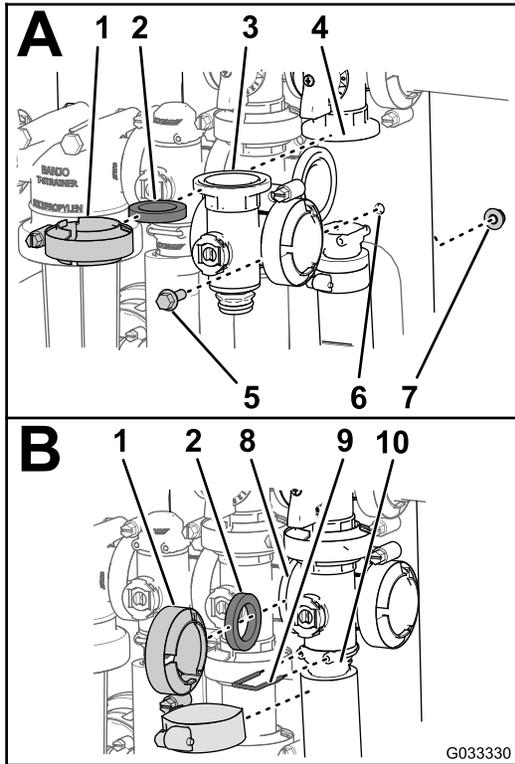

Figure 77
1. Align the flange of the master-boom-valve manifold, 1 gasket, and the flange of the master-boom-bypass valve (A of Figure 77).
2. Assemble the master-boom-valve manifold, gasket, and master-boom-bypass valve with a clamp tightened hand-tight (A of Figure 77).
3. Align the flange of the master-boom-valve manifold, a gasket, and the agitation-valve manifold (B of Figure 77).
4. Assemble the master-boom-valve manifold, gasket, and agitation-valve manifold with a clamp tightened hand-tight (B of Figure 77).
5. Align the flange of the master-boom-valve manifold, a gasket, and the master-boom house (B of Figure 77).
6. Assemble the master-boom-valve manifold and socket with a clamp tightened hand-tight (B of Figure 77).
7. Secure the end-cap fitting to the outlet fitting by inserting a retainer into the outlet fitting (B of Figure 77).